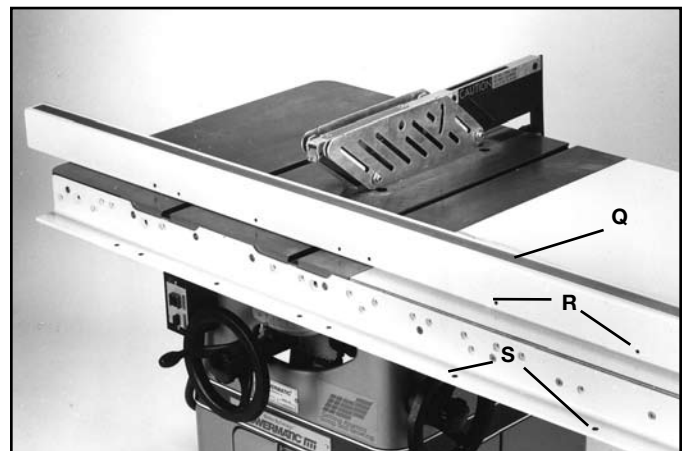

FIG. 22
14. Lay guide tube (Q) Fig. 22, on saw table as shown, and line up the threaded holes (R) in bottom of guide tube with through holes (S) in the front rail. Guide tube will extend 6" past the rail at both ends.